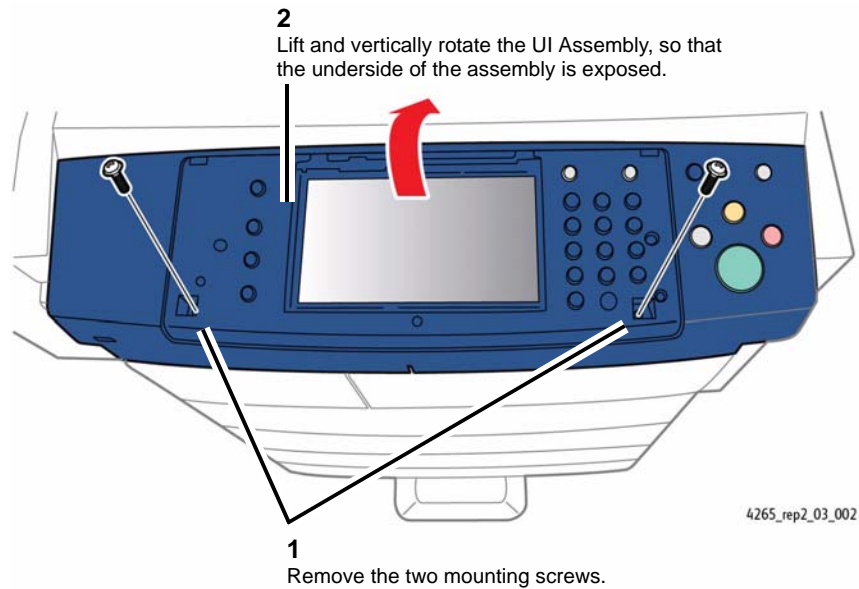

Figure 2 Detaching/Rotating the Housing Panel
- Detach and rotate the UI Assembly (Figure 2).